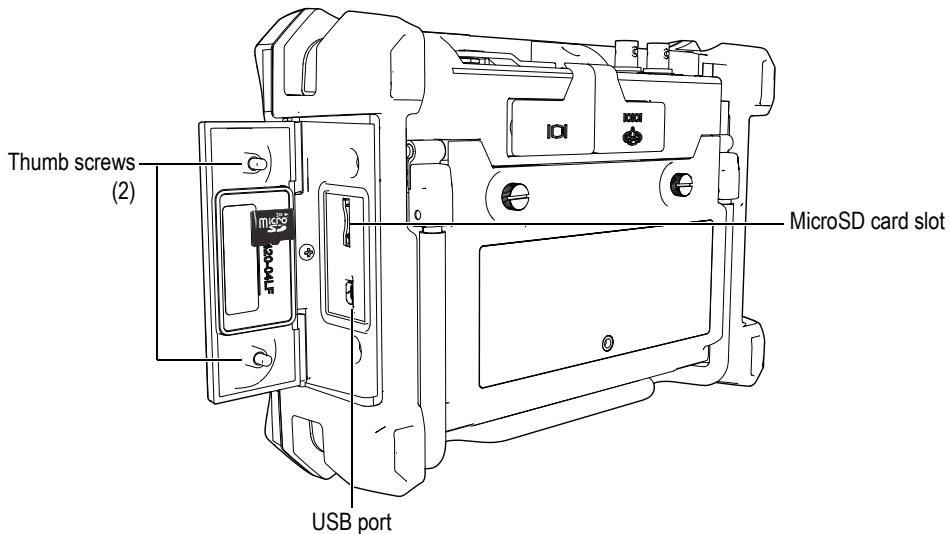

Figure 1-12 The side door
2. Loosen the two thumb screws, and then open the EPOCH 600 side door (see Figure 1-12 on page 32).
4. Carefully slide the card into the MicroSD slot until it clicks (see Figure 1-12 on page 32).